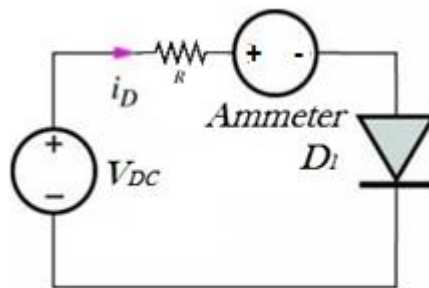

Figure 2 PN-Junction diode test circuit
2. Build the circuit shown in Figure 2 using the E3631A Power Supply's +6 V source and the 34410A Digital Multimeter as an Ammeter with the diode connected in series. The maximum continuous current that the 1N4148 diode can conduct is 200 mA (see datasheet). An alternative way to protect the diode from excessive currents is to use a series resistor. Because the diode current depends exponentially on its bias voltage, if the power-supply voltage were inadvertently set to its highest voltage level (6 V for the 6 V supply used in this experiment), an excessive current could flow through the diode which would damage it permanently. The resistor prevents this condition from taking place. **What is the value of the series resistor that you must choose for the 1N4148 diode (with a 200 mA maximum current) attached to this 6 V power supply?**
2. Plot the $I_D(V_{PN})$ characteristics obtained using LabVIEW on a log-linear plot. The y -axis label should be '1N4148 Diode Current, I_D (A)' and the y -axis labels reading for example 10^{-9} , 10^{-8} , 10^{-7} , 10^{-6} , 10^{-5} , 10^{-4} , 10^{-3} , etc. The x -axis should read 'Diode Voltage, V_{PN} (V)' and the x -axis labels should read 0, 0.1, 0.2, 0.3, 0.4, 0.5, etc. Make sure to have enough data points to generate a smooth curve. Use the measured value of V_{PN} (from your V_{PN} vs V plot) across the diode in this plot, i.e., do not assume that the voltages supplied by the power supply are those across the diode.
5. Comment on the values of I_s and γ that yield the best fit to the data. How do your experimental and varied values compare with those given in the diode-manufacturer data sheets? (For R_s use Figure 2, curve 2, on the Vishay datasheet. I_s can be found under reverse current, and γ should be about 2.3.)